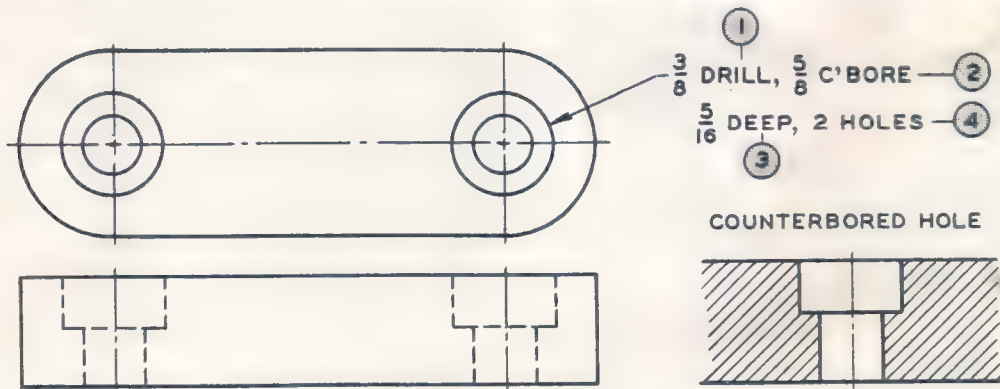

FIG. 50 DIMENSIONING COUNTERBORED HOLES
A counterbored hole (Fig. 50) is one that has been machined to a larger diameter for a distance that will permit a bolt or pin to fit into this recessed hole. Also, the counterbored hole provides a flat surface for the bolt or pin to seat against.
Counterbored holes are dimensioned by giving ① the diameter of the drill, ② the diameter of the counterbore, ③ the depth and ④ the number of holes (Fig. 50).